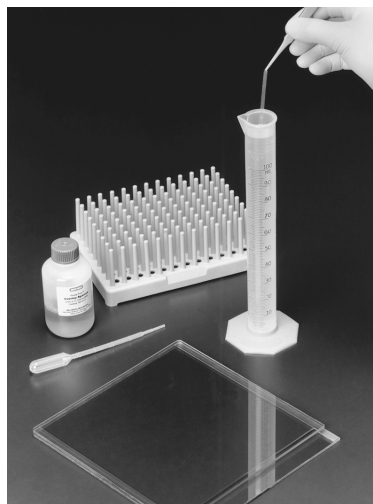
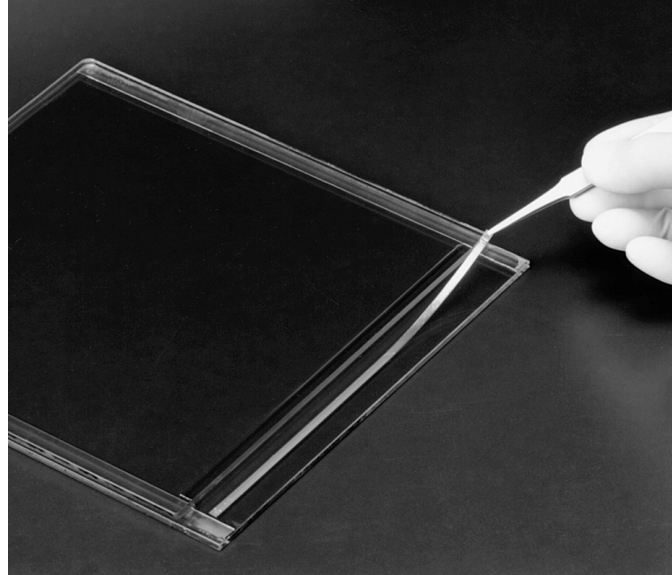

Fig. 10. Rinsing the ReadyStrip in 1 X TGS running buffer.
Fig. 11. Placing the ReadyStrip gel side up on the back plate of the SDS-PAGE gel.
- 2 Finish preparing the SDS-PAGE gels by blotting away any excess water remaining inside the IPG well using Whatman 3MM or similar blotting paper. Lay the gels onto the bench with the top of the gel facing you and the back (tall) plate on the bottom; see Figure 10.
3. Remove an IPG strip from the disposable rehydration/equilibration tray and dip briefly into the graduated cylinder containing the 1X Tris/glycine/SDS running buffer, as shown in Figure 10. Lay the strip gel side up and onto the back plate of the SDS-PAGE gel above the IPG well (Figure 11). Repeat this process for any remaining IPG strips.